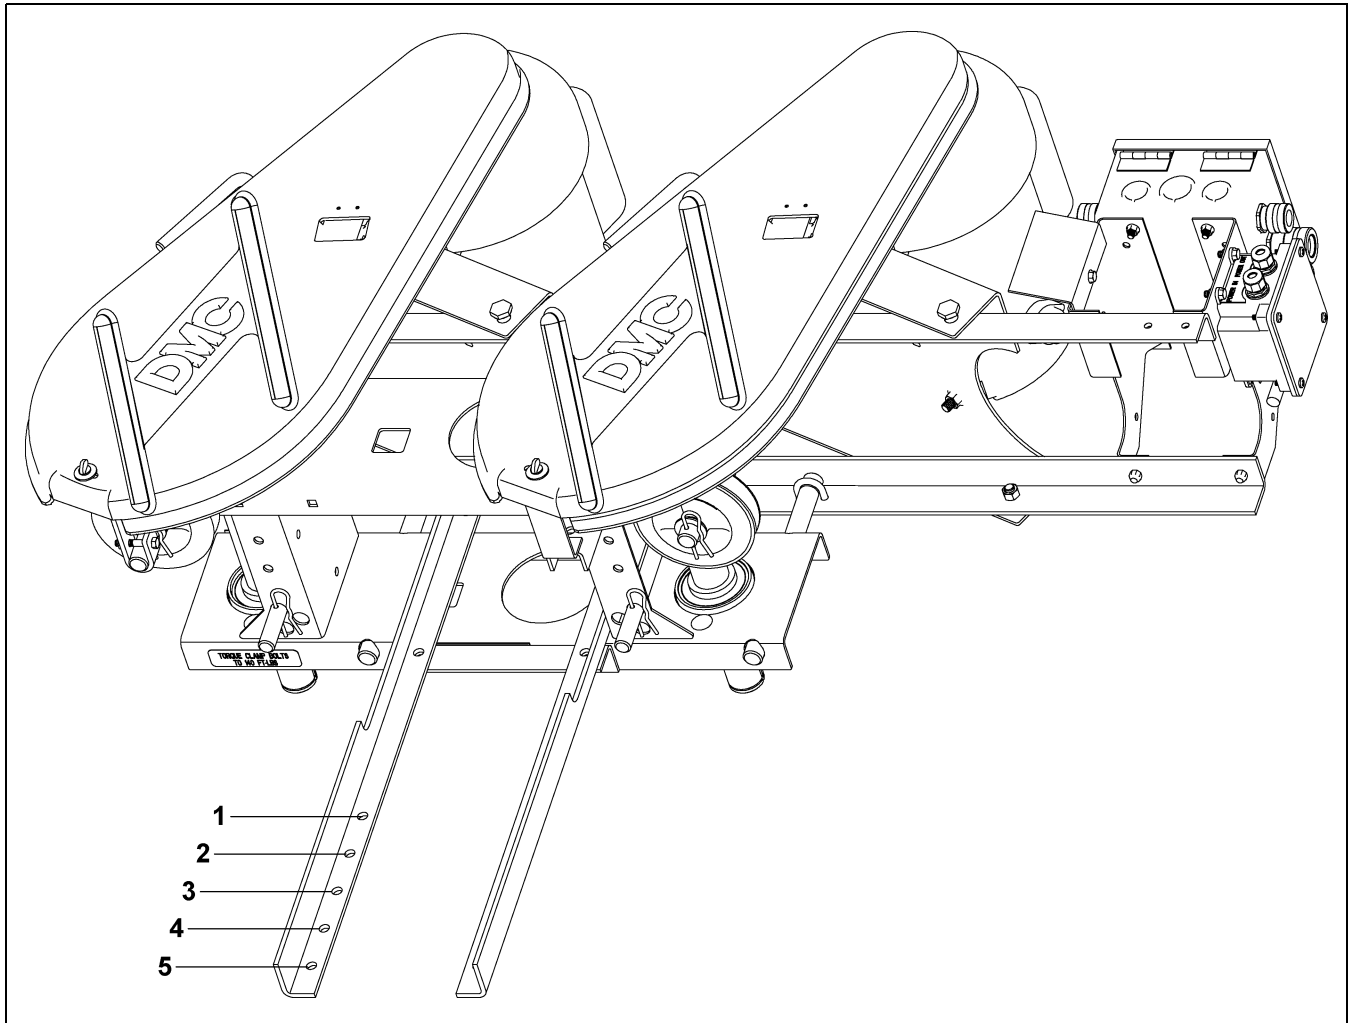

Figure 6
* Varying types of grain and varying lengths of down auger may require a slightly different weight configuration. Auger trail-back can be increased by adding more weight at the given locations or by moving to new locations further from the trolley. Hole locations are called out in Figure 6.
The Figure 6 shows the hole locations by their called out numbers.